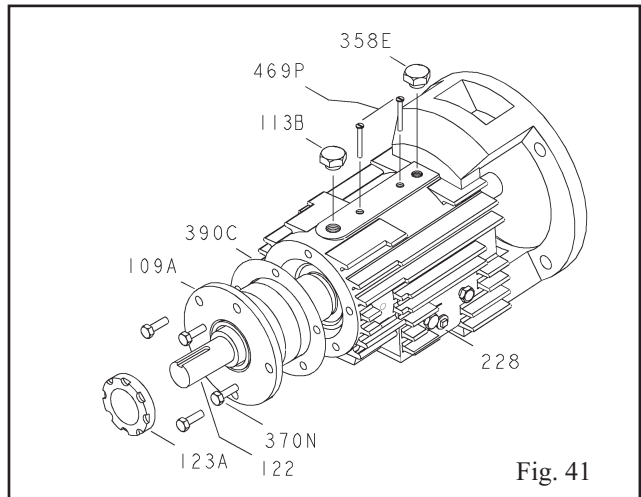

Fig. 41
9. Coat outer races of bearings (112) and (168) with compatible oil.
10. Coat internal bearing surfaces of bearing frame (228) with compatible oil.
11. Carefully guide shaft/bearing assembly into bearing frame (228) until thrust bearing (112) is seated against shoulder of frame (Fig. 41).